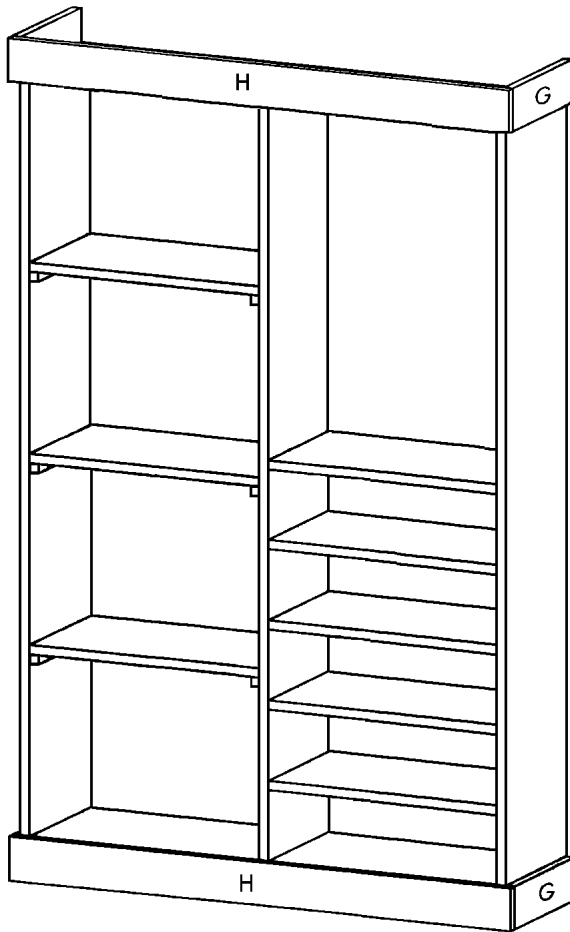

Figure 4
1. Cut four side trims (F) from 1 x 4 pine, each measuring 11-1/4 inches long.
2. Place the armoire case on its back on a level surface. Apply glue on the meeting surfaces, and screw one side trim (G) to the top of the armoire case, covering only the edge of the top/bottom (A), as shown in *Figure 4*. Screw through the side trim (F) into the top/bottom (A), using four evenly spaced 1-1/2-inch screws.
3. Repeat Step 2 three more times to attach the remaining three side trims (G) to the top/bottoms (A) on the bottom and top of the armoire case.
4. Cut two front trims (H) from 1 x 4 pine, each measuring 43-3/4 inches long.
5. Apply glue on the meeting surfaces, and screw one front trim (H) to the top front of the armoire case over the ends of the two side trims (G), as shown in *Figure 4*. Screw through the front trim (H) into the side trims (G) and the edge of the top/bottom (A) using 1-1/2-inch screws spaced every 5 inches.
6. Repeat Step 5 to attach the remaining front trim (H) to the bottom front of the armoire case.
7. The photograph shows the position of the crown molding (I) at the top and bottom of the armoire. Measure carefully and cut lengths of 3-inch-wide crown molding (I) to fit over the front and side trims (G and H), on both the bottom and top of the armoire case. The crown molding (I) should just barely cover the trims (G and H). Apply glue on the meeting surfaces and use 3/4-inch brads spaced about every four inches. If you are inexperienced at cutting crown molding, please refer to the “Tips and Techniques” section.